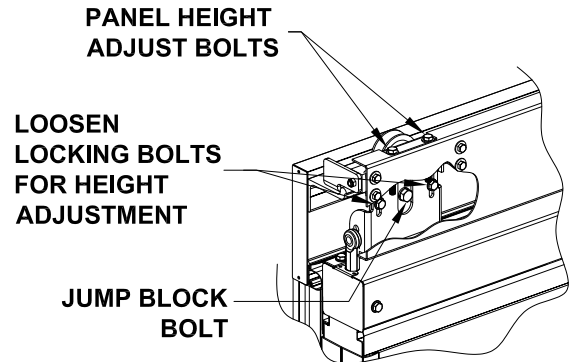

Figure 13: Sill Gasket/Door Panel Height Adjustment
2. Adjust the sill gasket position by adjusting door height at the trolley assemblies on the roller truck assembly. (Figure 13). Make adjustments when door is closed.